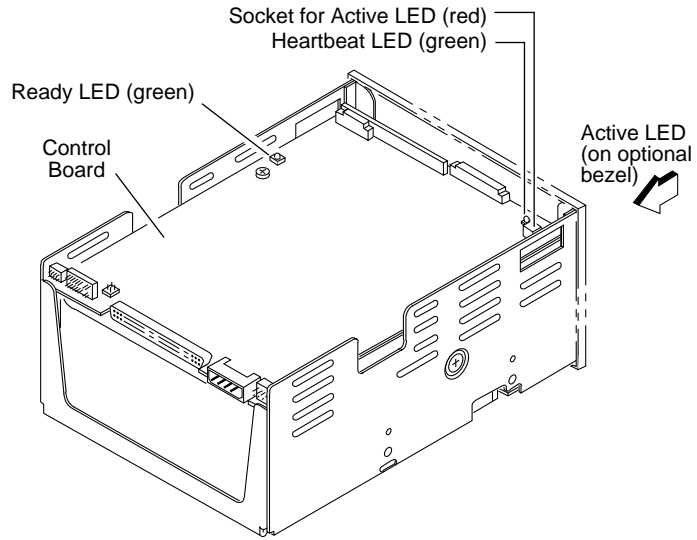
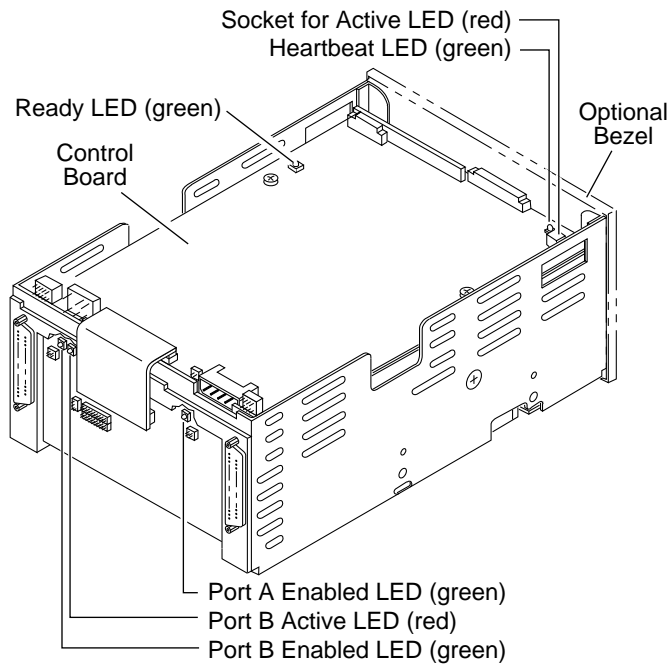

Figure 22. LEDs on ST43401N/ND drives
Figure 23. LEDs on ST43402ND drives
2. Observe that the Ready LED begins flashing when power is applied to the spindle motor. The Ready LED is one of two green control board LEDs—see Figure 22.
4. Observe that the Heartbeat LED is blinking. This indicates that the SCSI controller is operating properly. The Heartbeat LED is the other green control board LED—see Figure 22.
Two of the maintenance LEDs are located on the drive's control board. The third maintenance LED is located either on the control board or on an optional bezel (if the bezel is installed). Figure 22 shows the LED indicators on ST43401N/ND drives, and they are explained in Table 6. Figure 23 shows the LED indicators on ST43402ND drives; they are explained in Table 7.
If you wish to verify that the drive has completed its power-on sequence, access the drive and then check that its Ready LED is on steady and that the Heartbeat LED is blinking (see Figure 22 for ST43401N/ND drives or Figure 23 for ST43402ND drives).